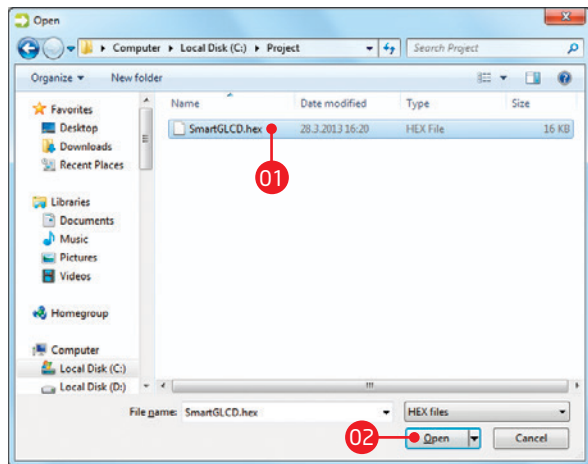

Figure 5-6: Locating and selecting .hex file
- 01 Click the **Browse for HEX** button and from a pop-up window (Figure 5-6) choose a .HEX file to be uploaded in MCU memory.